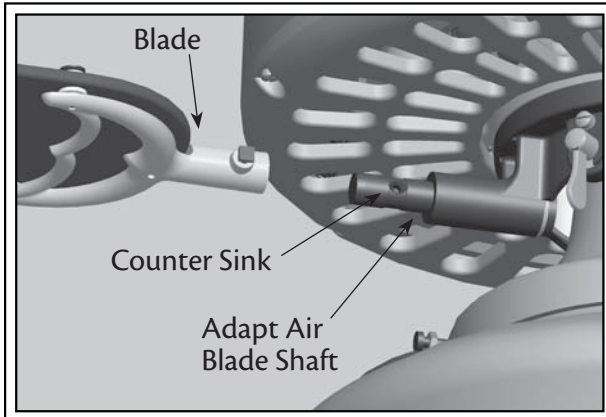

Fig. 14
2. Align the blade base assembly screw with the Adapt Air blade shaft counter sink (see Fig. 14).